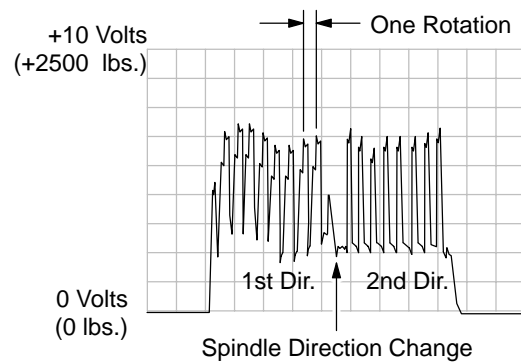

Figure 3-9 Radial Force Variation
- Once the tire is inflated, loaded and rotating, the radial force becomes periodic. See Figure 3-9.